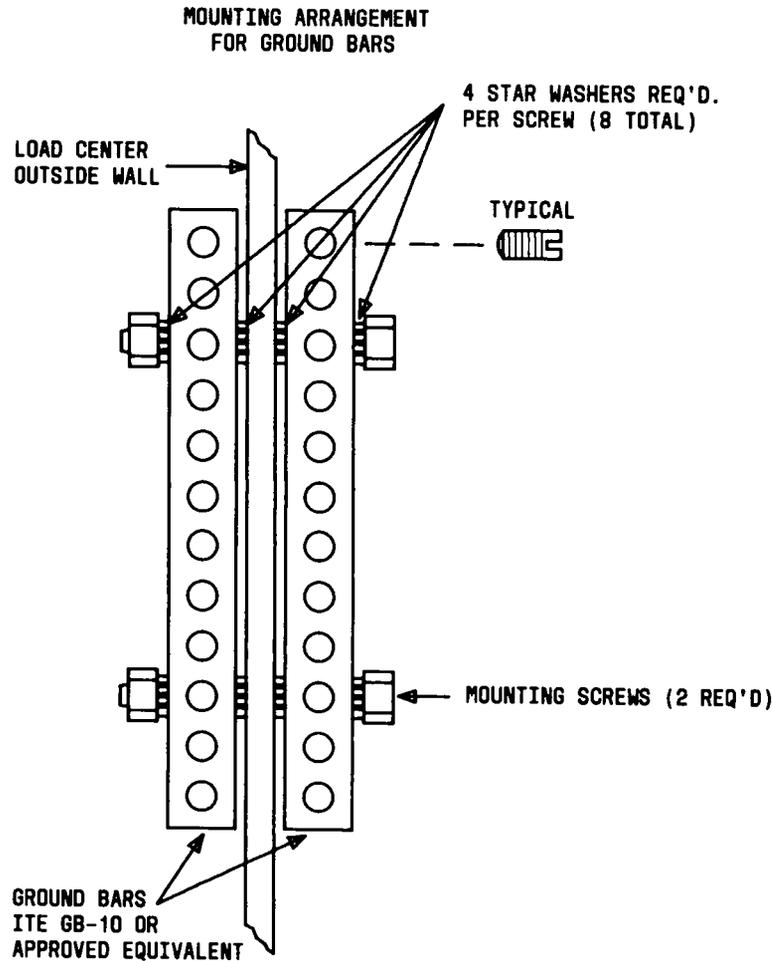

Fig. 6—Mounting Arrangement for Ground Bars
3.08 The electrician shall mount the two ground bars back-to-back on the side of the load center. They are to be held together in a "sandwich" arrangement such that one is inside the load center and the other on the outside. Star washers shall be used between the screwhead and ground bar, between nut and ground bar, and between each ground bar and load center wall to ensure a permanent, reliable electrical bond between ground bars and load center wall (Fig. 6). The electrician shall use the inside ground